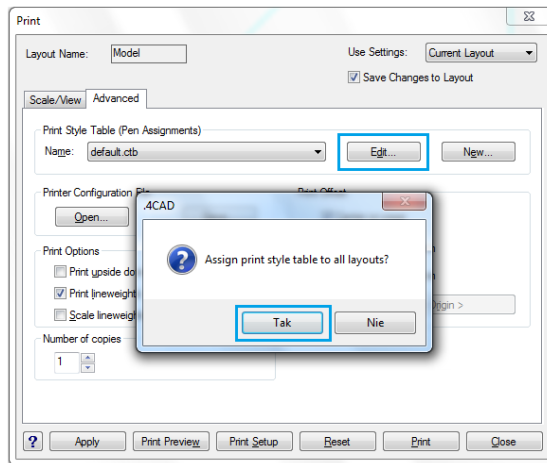

Fig. 321 – Print style table option
- select the position **default.ctb** in the **Print** dialog box → the **Advanced** tab → the **Print style table (Pen Assignments)** section → the drop-down menu of the **Name** option (Fig. 321);